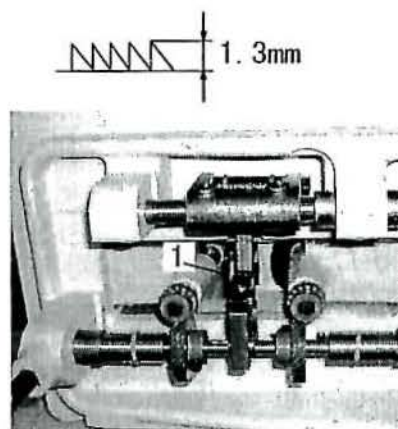

Fig.20
14. ADJUSTMENT THE HEIGHT OF THE FEED DOG (Figs. 20)